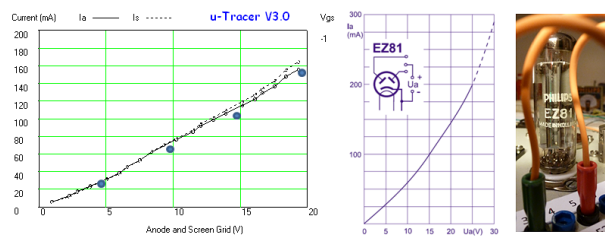

Figure 8.12.2 EZ81 full-wave power rectifier tested and compared to datasheet.
In Fig. 8.12.2 the I(V) curve of the diodes of a single EZ81 are compared to the curve from one of the datasheets. Like in the measurement of double triodes, one of the anodes is connected to the anode connection of the uTracer, while the other anode is connected to the screen connection. In this way both measurements can be compared in one measurement.